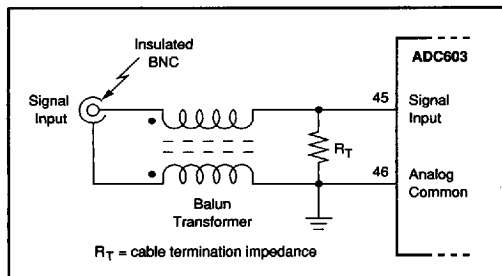
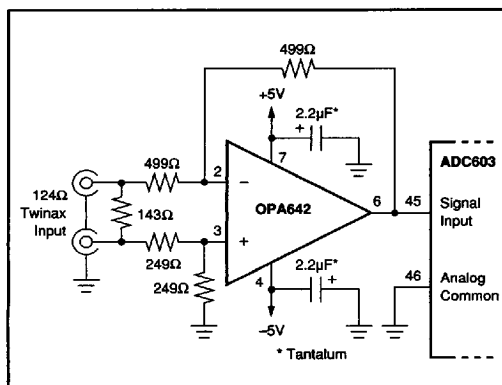

FIGURE 7. Floating-Input Balun Transformer.
FIGURE 9. Differential Input Buffer Amplifier
13. Floating inputs can eliminate ground-loop noise. A simple common-mode choke (balun) shown in Figure 7 and 8, or a differential amplifier (Figure 9 and 10) can reduce analog input noise.